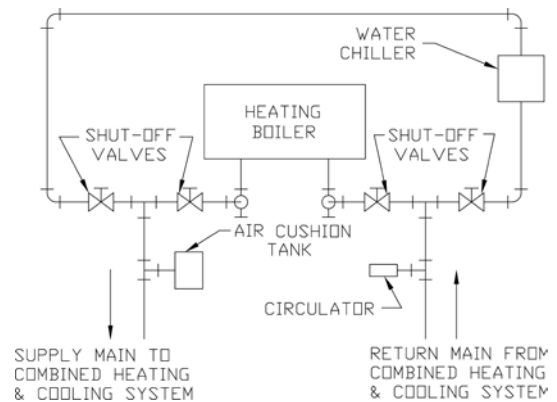

Figure 4: Recommended Piping for Combination Heating & Cooling (Refrigeration) Systems
- G. If this boiler is used in connection with refrigeration systems, the boiler must be installed so that the chilled medium is piped in parallel with the heating boiler using appropriate valves to prevent the chilled medium from entering the boiler, see Figure 4. Also consult I=B=R Installation and Piping Guides.